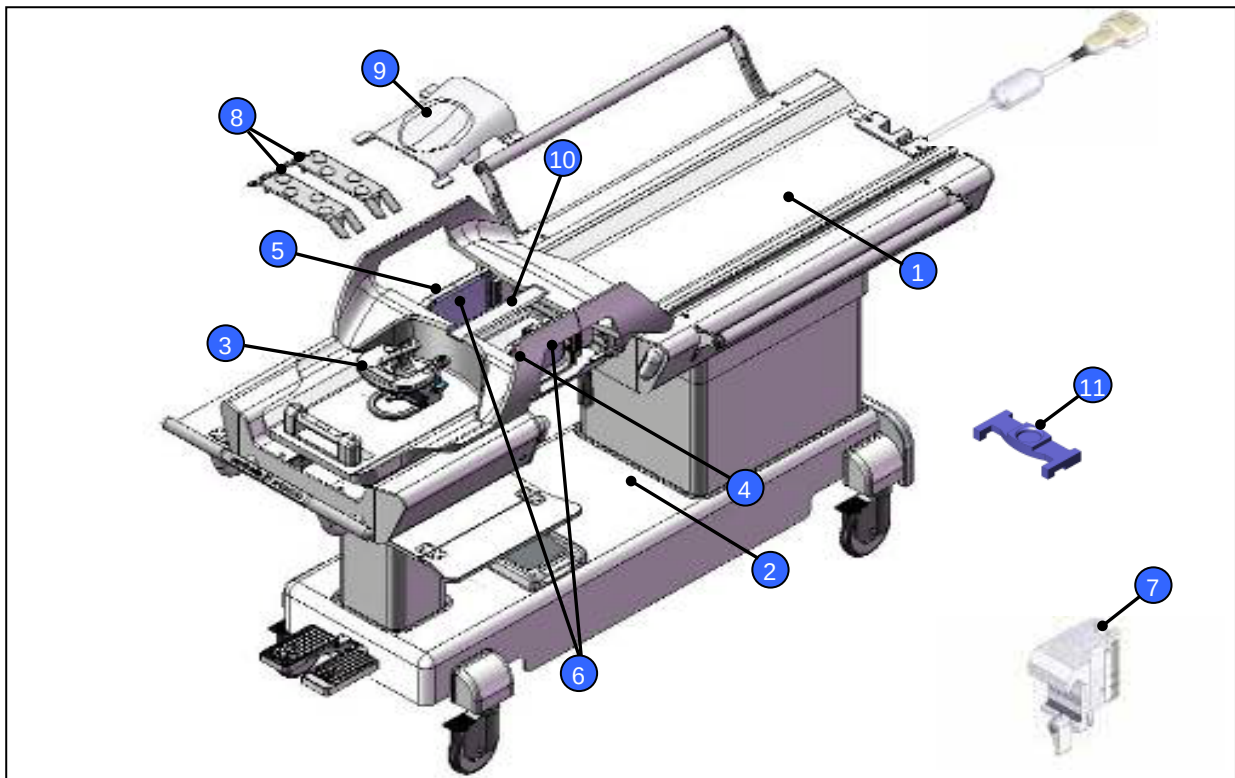

Figure 2: Patient Support and Stretcher
*Shown in Figure 2 with VG 1.5T 8ch Cable System installed.